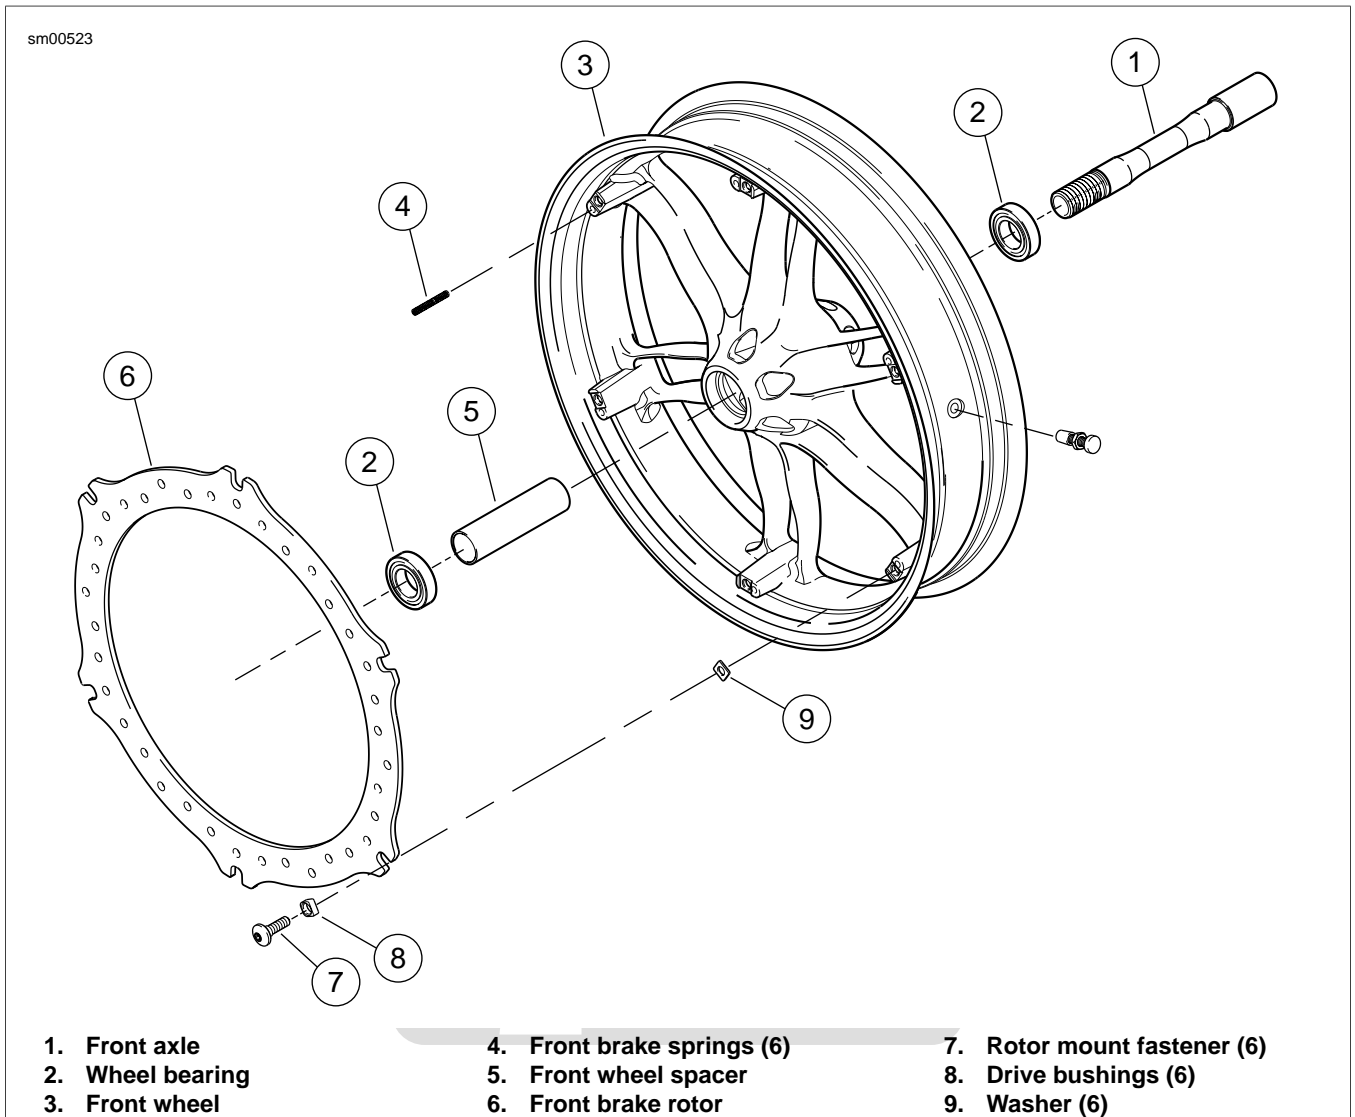

Figure 2-16. Front Wheel Assembly
1. See Figure 2-16. Remove and discard rotor mounting fasteners (7).
2. Remove and inspect brake rotor (6) for wear and warping. See 2.10 FRONT BRAKE: SIX PISTON CALIPER, Cleaning and Inspection.
3. Remove drive bushings (8) and discard.
4. Remove washers (9) and discard.
5. Remove front brake springs (4) and discard.
- See Figure 2-16. Install **new** wheel bearings (2) into hub using suitable driver. Press on outer race only.
1. See Figure 2-16. Install **new** springs (4).
2. Install **new** washers (9).
3. Install **new** drive bushings (8) into rotor.